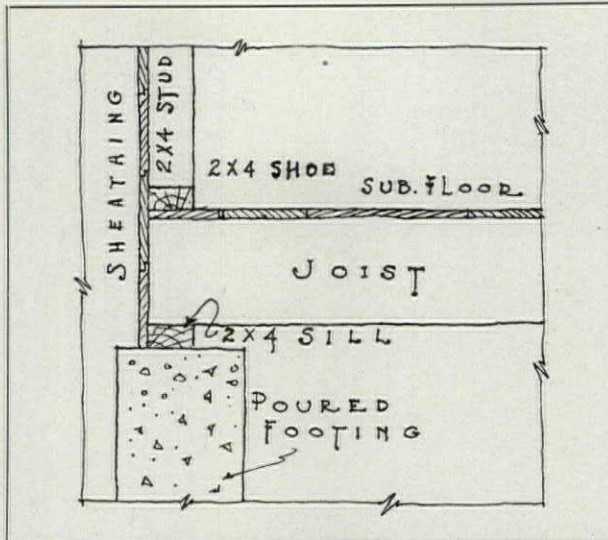
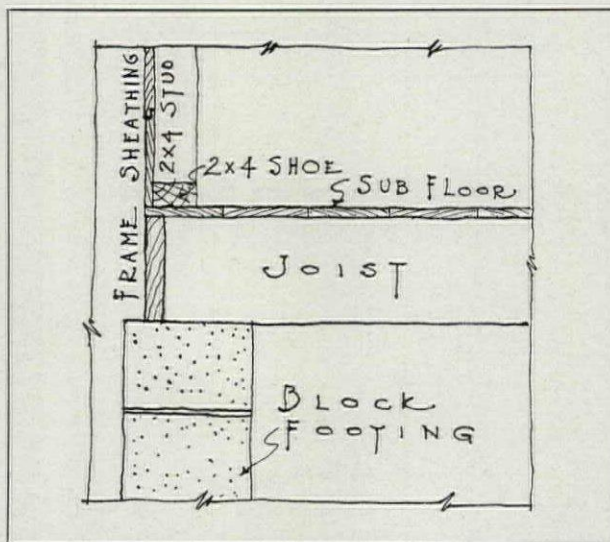
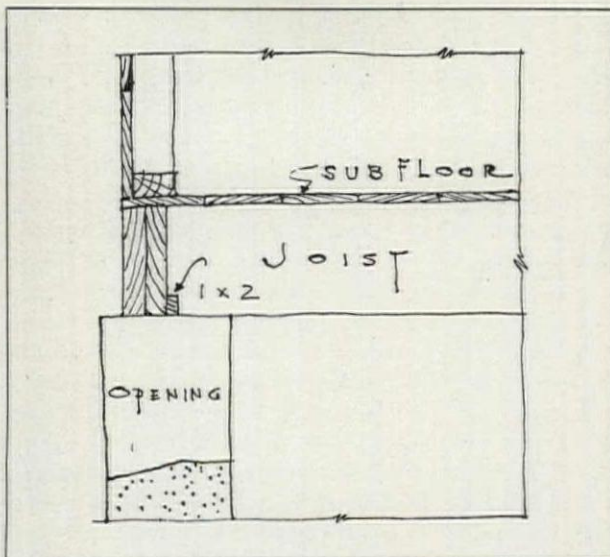

Fig. 5. Section Designed Primarily for Economy, Showing Sill
Fig. 6. Section Showing Use of Encircling Frame with Joists Resting Directly on Blocks
Fig. 7. Section Showing Sub-floor Running Through and Joists Resting on Minimum Nailing Strip
**First Floor System.** If poured concrete foundations are used, it is necessary to specify a sill on which to rest the joists, as it is more difficult and expensive to mould the concrete to obtain an absolutely level bed for the joists along the entire foundation. A sill can be laid, leveled up and then grouted at less expense than trying to make the top of the concrete level (Fig. 5). When concrete blocks are used, such a sill is not required, as an experienced mason will have no trouble in laying them level. The joists can be laid directly on the blocks and held in place by an encircling frame as shown in Fig. 6. This frame holds the joists firmly at their ends and results in a saving in the bridging, as one row placed at the joist centers is usually sufficient to obtain a rigid floor system. Over door and window openings this frame is doubled to insure structural safety. A satisfactory seat for the joists can be obtained by nailing a piece of 1 x 2-inch shingle lath to the inside of the frame. It is advisable to carry the sub-floors out over this frame so as to form a complete platform on which to place walls and partitions (Fig. 7). In the first place, this method of support cuts off the basement from the open spaces in the walls, thus forming a fire stop; and secondly, it prevents the builder from nailing his studs to the sides of the joists. The latter practice is objectionable because the joists will shrink and the floor will sink down, leaving open spaces underneath the baseboard, which stays in a fixed position, being nailed to the wall. In regard to the bridging of the joists, it will be found that metal bridging as sold by various manufacturers is much cheaper and more satisfactory than that ordinarily cut from 1x 2-inch shingle lath. No plaster ceiling need be specified for the underside of the joists if it is desired to keep the cost down, although such a ceiling of plaster on metal lath is desirable from a standpoint of fire protection.